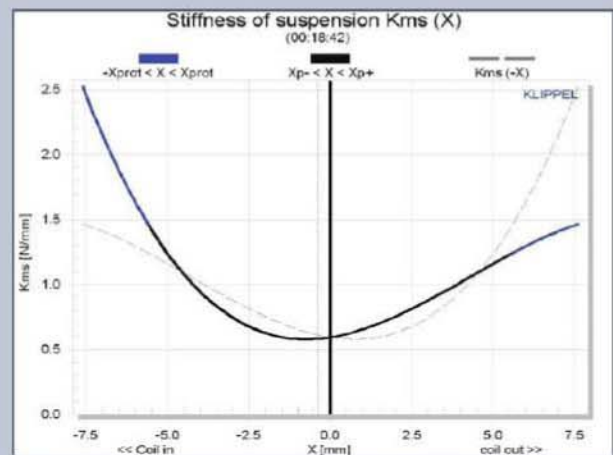

FIGURE 24: Klippel Analyzer Mechanical Stiffness of Suspension Kms (X) curve for the Wavacor WF120BD04.
Klippel analysis for the Wavacor 4.75" woofer produced the Bl(X), Kms(X) and Bl and Kms symmetry range plots given in **Figs. 22-25**. The Bl(X) curve for the WF120 (**Fig. 22**) is relatively broad and symmetrical, especially for a 4.75" diameter driver, and obviously also with "tilt" that includes a small forward (coil-out) offset. Looking at the Bl symmetry plot (**Fig. 23**), this curve shows a 0.8mm coil forward offset at the rest position that decreases to 0mm at the physical 4mm X_{max} of the driver. **Figures 24** and **25** show the Kms(X) and Kms symmetry range curves for the Wavacor midbass woofer.